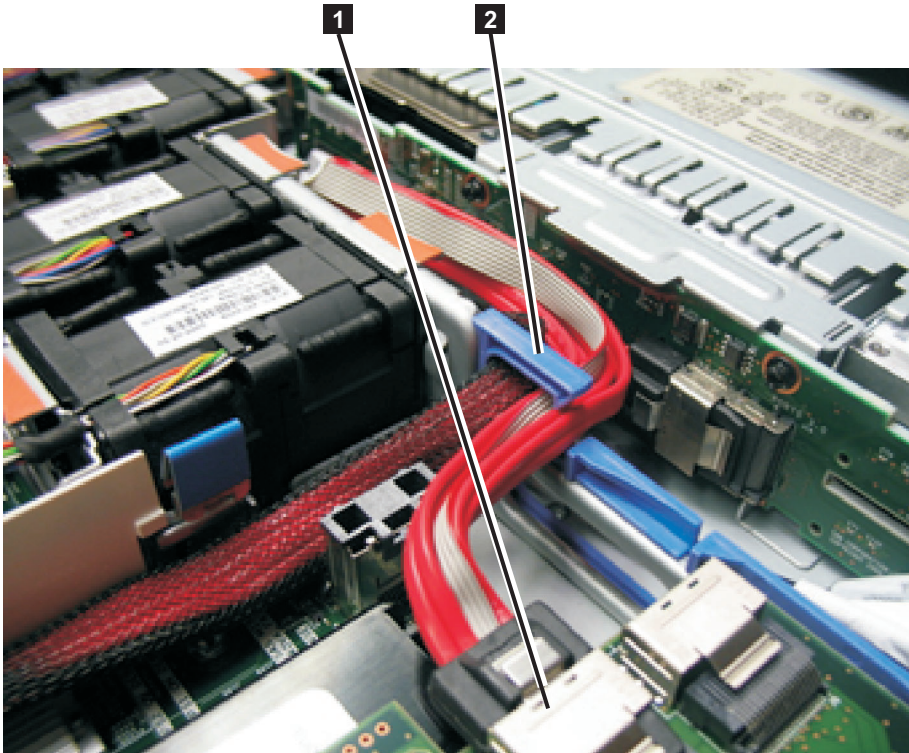

Figure 197. Boot-disk SAS cable routed through the blue bulkhead clip and connected to the SAS disk controller in the SAN Volume Controller 2145-CG8 or 2145-CF8
10. Remove the cable from the blue bulkhead clip behind the disk backplane, as shown in Figure 197 on page 200.